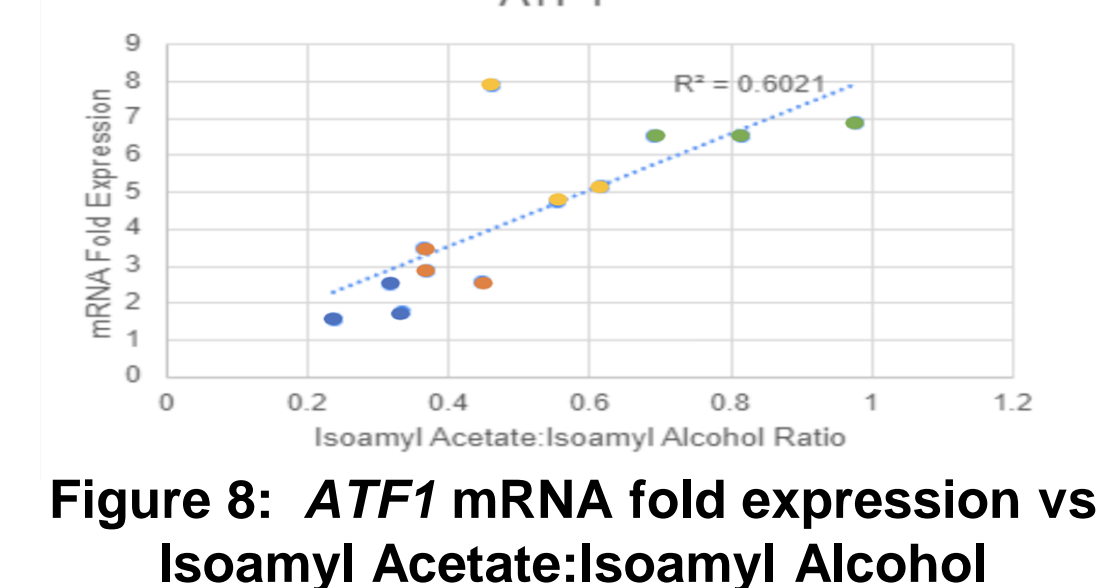

Figure 5: Relative ATF1 Gene expression
- ❖ Figure 5: There was significant difference between Belgian Saison and every other type of beer.